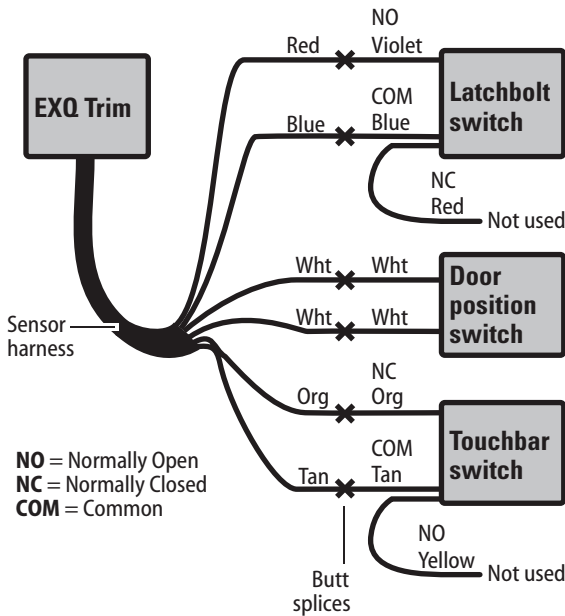
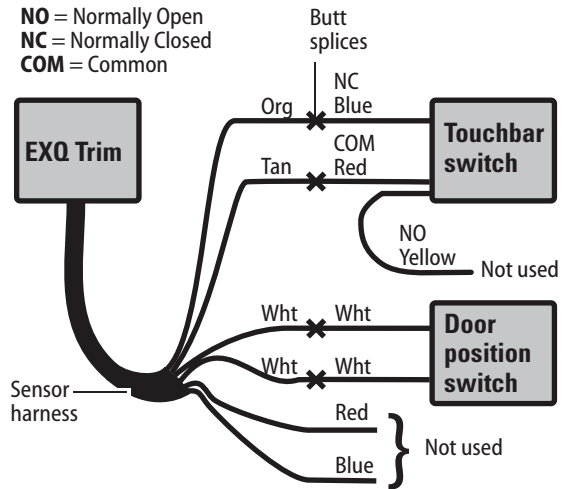

Figure 24 Schematic diagram for connecting BEST Precision sensor harness wires
Figure 25 Schematic diagram for connecting Von Duprin sensor harness wires
- 4 Make wire connections as detailed in Figure 24 or Figure 25 using the butt-splices (provided).